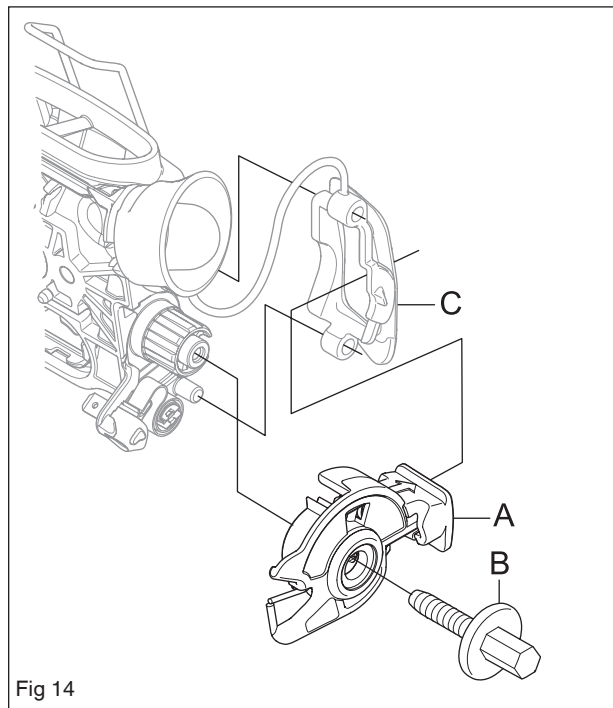

Fig 14
2. Loosen screw B and dismantle the stop control A. See figure 14. Unhook the rubber collar around the control from the guide plugs.